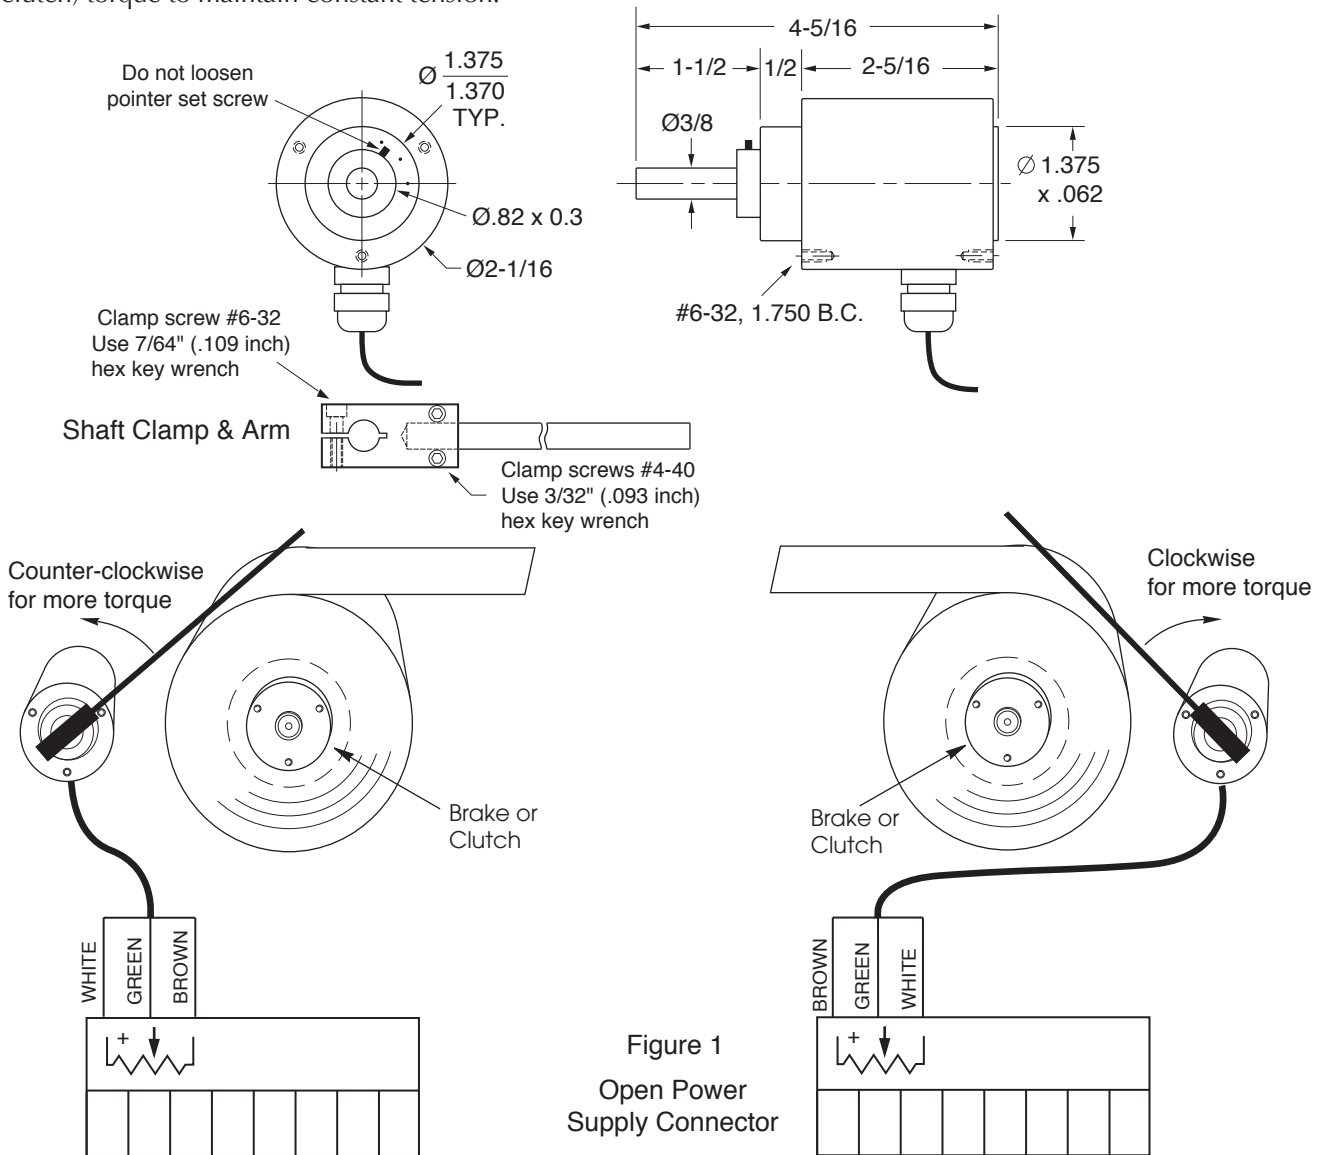

Figure 1
- 4) Connect the 3 wires from the Follower Arm Potentiometer to the connector as shown in Figure 1.